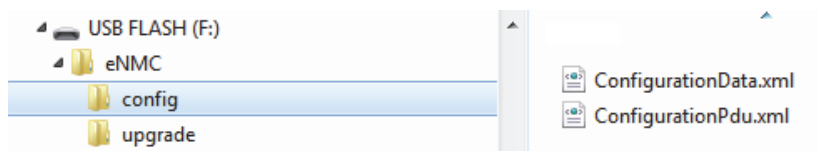

Figure 62. Verify Files at USB Root
1. Verify that the USB drive contains the ConfigurationPdu.xml file and ConfigurationData.xml files in eNMC/config directory of USB drive (see Figure 62).